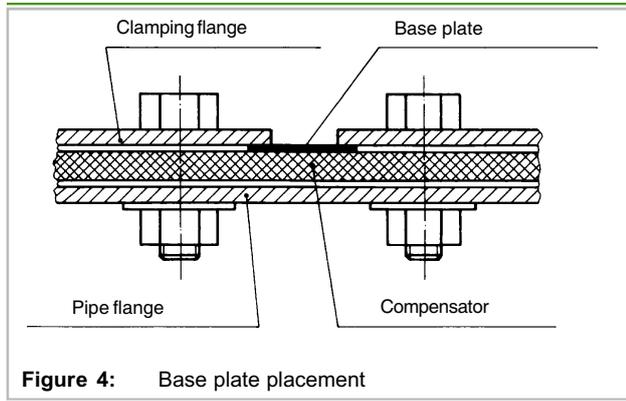

Figure 4: Base plate placement
4.4 Any base plates are to be placed between the segments of the clamping flanges, as shown in Fig. 4.